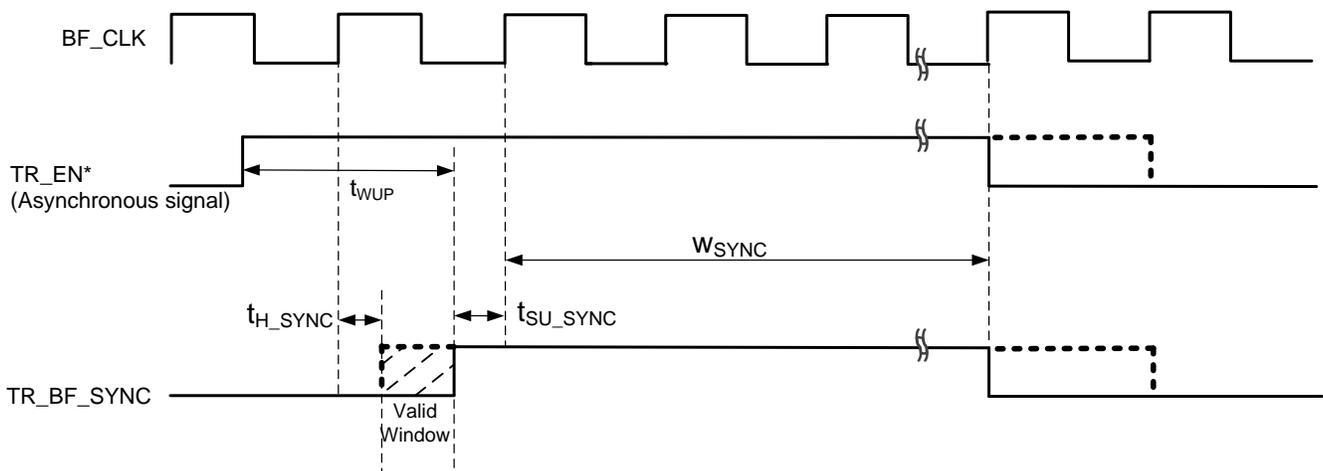
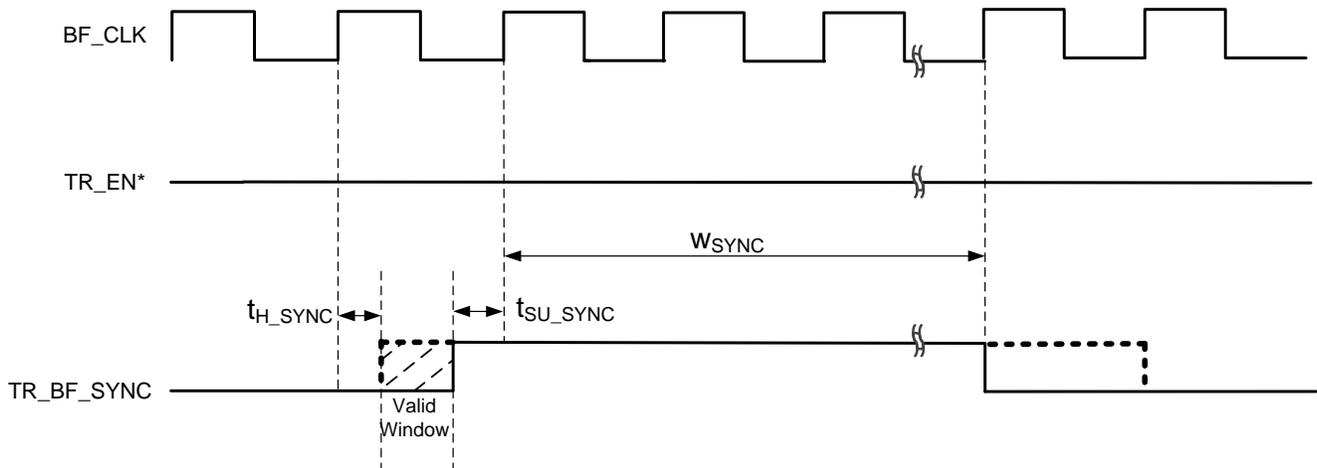

Figure 47. TR_BF_SYNC Timing requirement for Dynamic Trigger Mode
Figure 48. TR_BF_SYNC Timing Requirement for Static Trigger mode
1. Dynamic trigger mode: To achieve the low power from the device the floating LDOs, BF_CLK and the TR_BF_SYNC buffer in the device are powered down during the receive mode. In order to apply the trigger signal to the device, floating LDOs, BF_CLK and the TR_BF_SYNC buffer must be powered up. A signal applied on TR_EN* pins is used to power up these blocks. After this pulse on TR_BF_SYNC pin is used to trigger the device; see Figure 47.
2. Static trigger mode: when the system hardware does not have capability to generate the signal on TR_EN* pins, the BF_CLK clock and the TR_BF_SYNC buffer can be made permanently ON by writing register bits DIS_DYN_CNTRL_1 and DIS_DYN_CNTRL_2 to '1'. Keeping these buffers permanently ON leads to extra power from the device. In this mode just applying a pulse on TR_BF_SYNC pin triggers the device; see Figure 48.
In both dynamic and static trigger mode, proper functionality of the device TR_BF_SYNC signal requires meeting both setup and hold timing constraints with respect to the BF_CLK clock signal. Refer to Figure 47 and Figure 48 for static and dynamic trigger mode. Electrical Characteristics lists the parameter values.